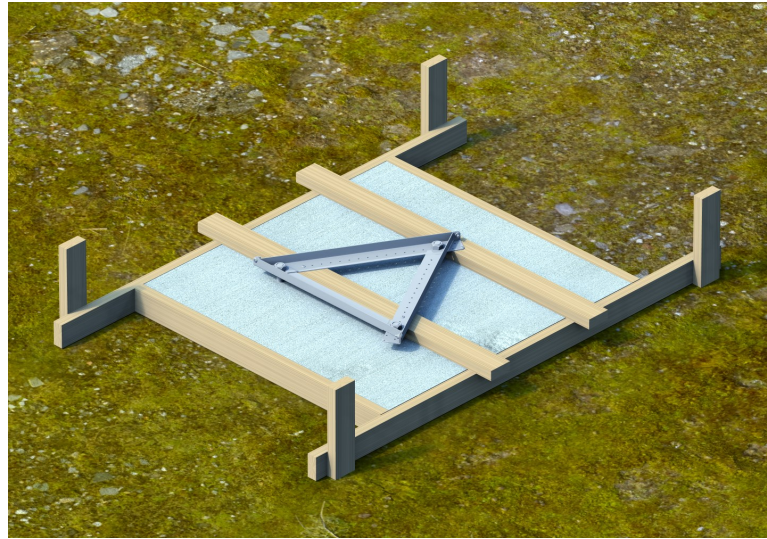

FIGURE 7-8. Template frame placement
5. Fill the hole with concrete (FIGURE 7-8 (p. 16)). Screed the concrete, then remove the masking tape. Allow at least three to four days for the concrete to cure before proceeding.